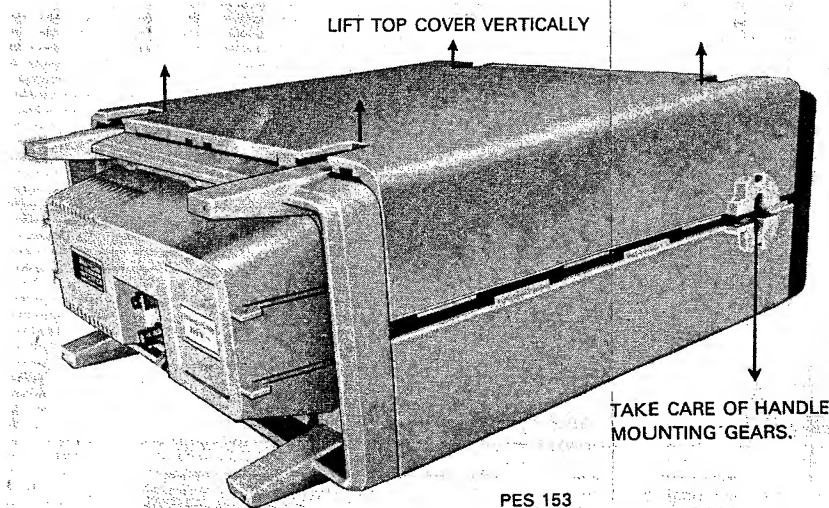

Fig. 3.3 Lifting the top cover.
- Now lift vertically the top-cover out of the front-and rear-cover (Fig. 3.3.).